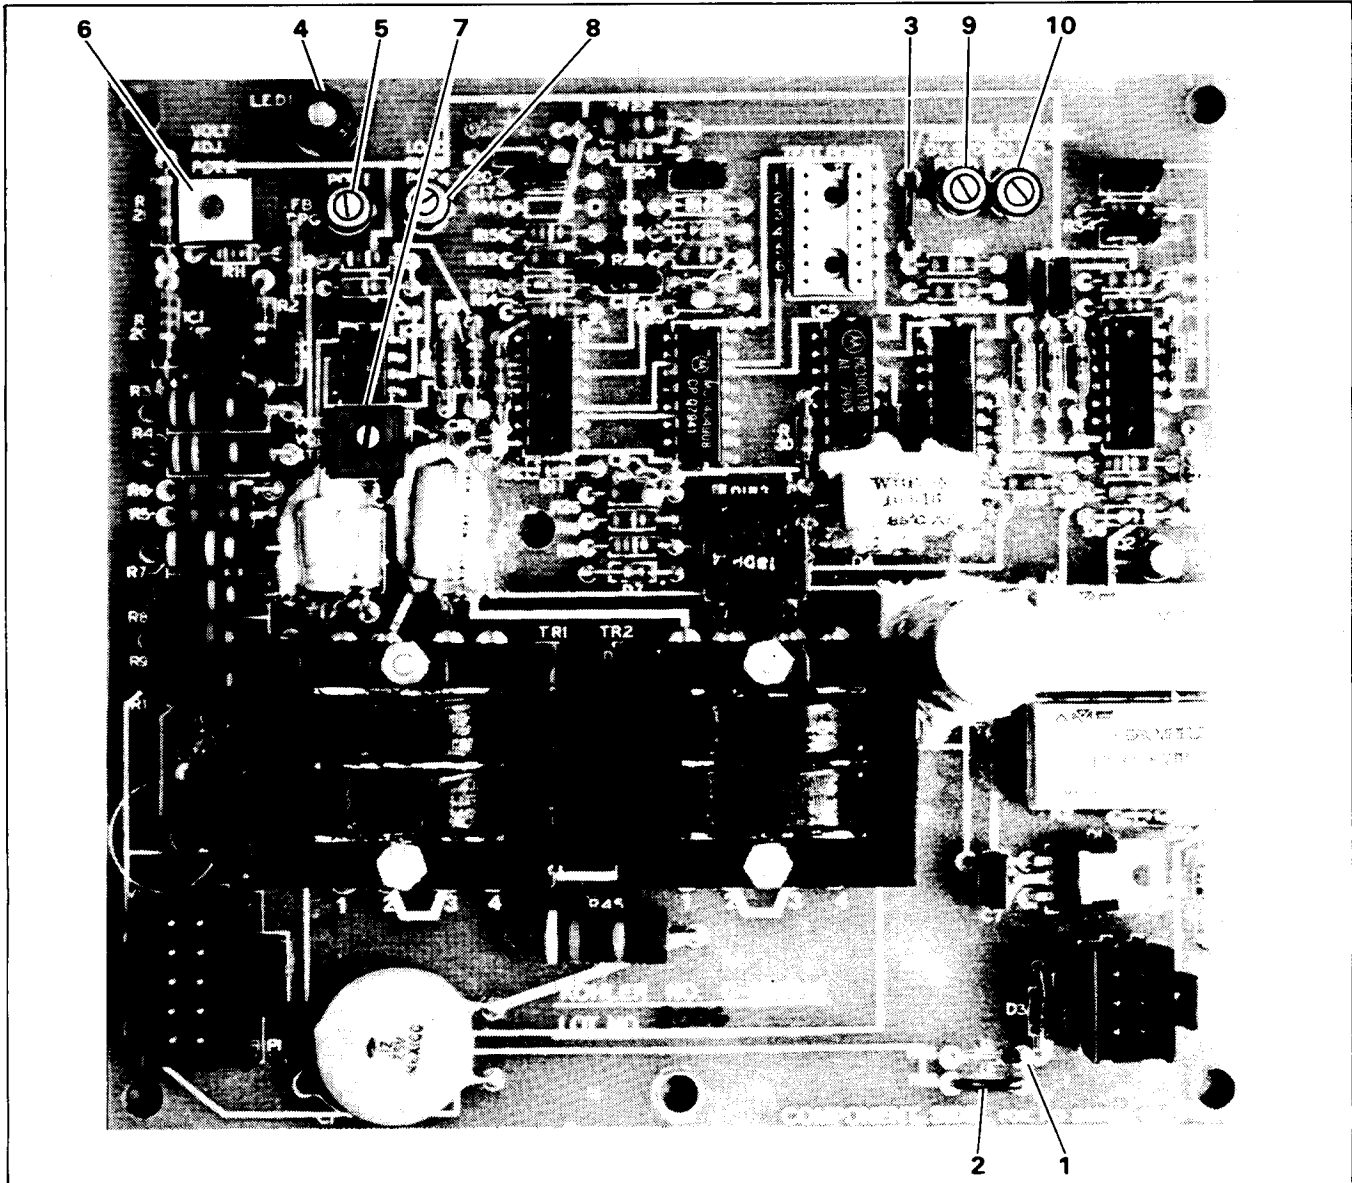

Figure 3-17. Regulator Board
6. See Figure 3-17 for types of voltage regulator boards, in order to determine which adjustment procedure must be used.